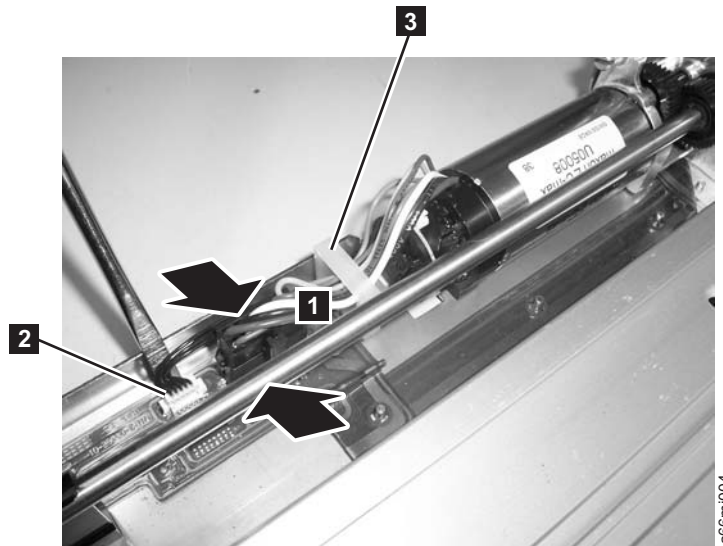

Figure 8-50. Y motor connector
4. Remove the large black connector. See Figure 8-50 on page 8-54.
- a. Pinch the latch (**1** in Figure 8-50) on the cable connector.